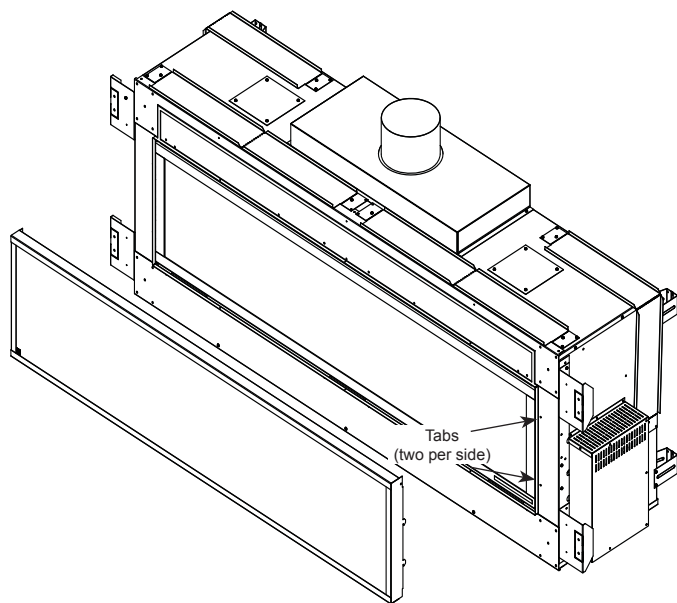
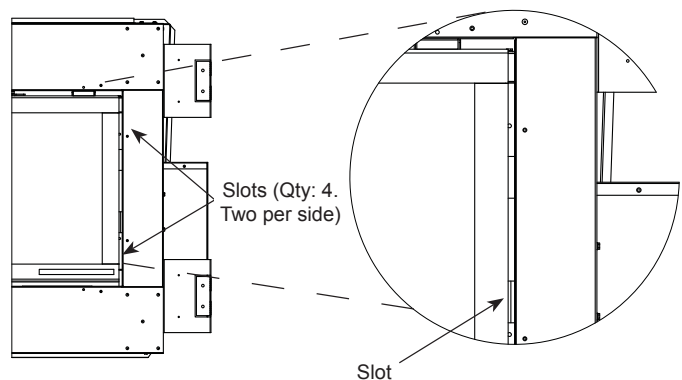

Figure 57
Figure 58
2. Align the four tabs on the sides of the screen frame (two top, two bottom) *Figure 57* with the corresponding slots on the firebox. *Figure 58*.